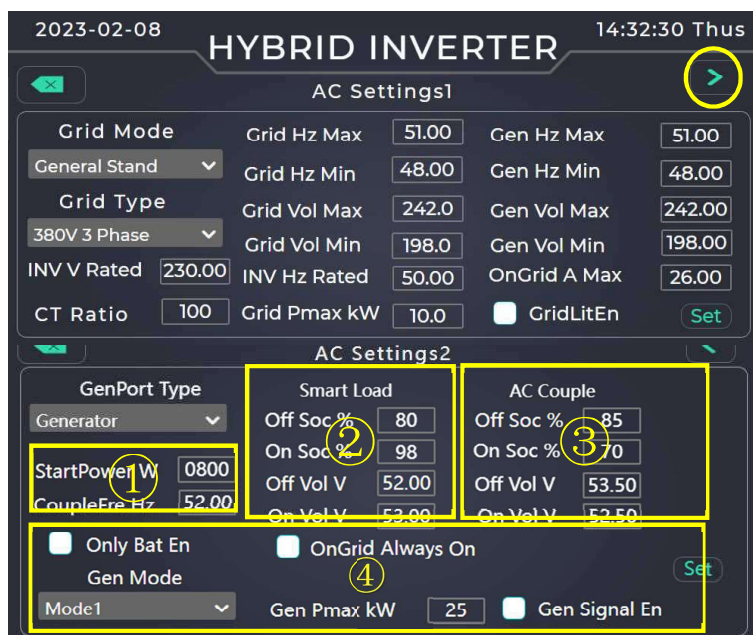

Figure 3.15 Grid Setting Interface
setting. This will affect ②,③ in that Figure 3.12 and ②,③ in that Figure 3.15 settings below.
Click "Grid Setting" to set grid related parameters, as shown in Figure 3.15, including grid standard, upper and lower limits of voltage frequency, upper and lower limits of voltage value, grid frequency, GEN interface type, CT transformation ratio, Grid power limit, Genport function setting, etc.
- When selecting the Gen connected to the GEN interface, please confirm that the control line of the Gen is also connected to the 15~16 terminal NO2&COM2 Gen adjustment control, the 13~14 terminal NO1&COM1 Gen start control, select GenPortType as Generator in the grid setting interface in Figure 3.15. At this time, Select Gen Mode, choose one of the two Modes, when the power grid is cut off, and the battery voltage or SOC is lower than the battery discharge voltage or SOC set value, the Gen will automatically start to supply power to the system.
- When selecting the smart load connected to the GEN interface, select GenPortType as Smartloads in the grid setting interface in Figure 3.15, and the Gen relay will be turned on at this time, and the GEN interface will supply power to the smart load for output.
Definition of function settings in number ①② in Figure 3.15:
- When selecting the AC Couple connected to the GEN interface, select AC Couple as GenPortType in the grid setting interface in Figure 3.15, and then AC Couple and the grid supply power to the system together.
Definition of function settings in number③④ in Figure 3.15:
Click the CT Ratio data box in the grid setting interface in Figure 3.15 to set the CT transformation ratio. When the model of transformer is 100:50mA, the interface value shall be filled with 100. If the transformer is 150:50mA, the value should be 150.